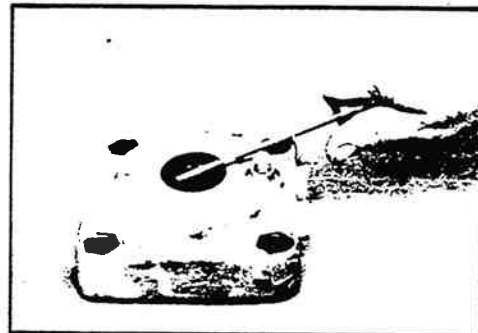

Figure 11-31. Seal Removal.
28. Remove and discard the valve housing O-ring (24) from the valve housing (19).
29. Remove and discard the dirt and water seal (37) (figure 11-31).